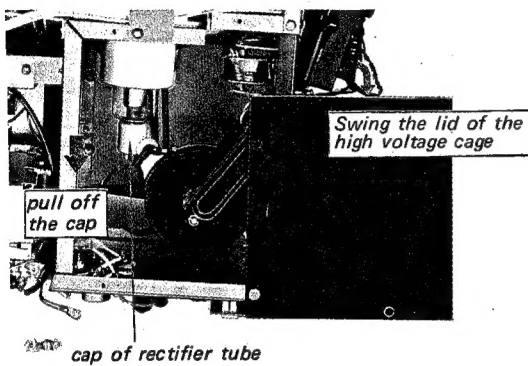

Fig. 2-27.
7. Swing the lid of high-voltage cage down as shown in Fig. 2-27.